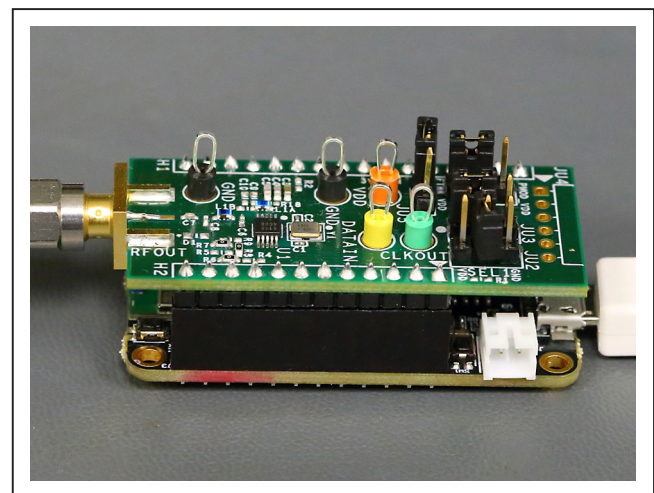

Figure 3. MAX4146x EV Kit Orientation to FTHR Board
2. **Connect the MAX4146x EV kit to the FTHR board,** be sure the USB connector is oriented on the opposite side of the SMA connector, as shown in Figure 3.
2. **Connect the MAX4146x EV kit to the FTHR Board,** be sure the USB connector is oriented on the opposite side of the SMA connector (see Figure 3).